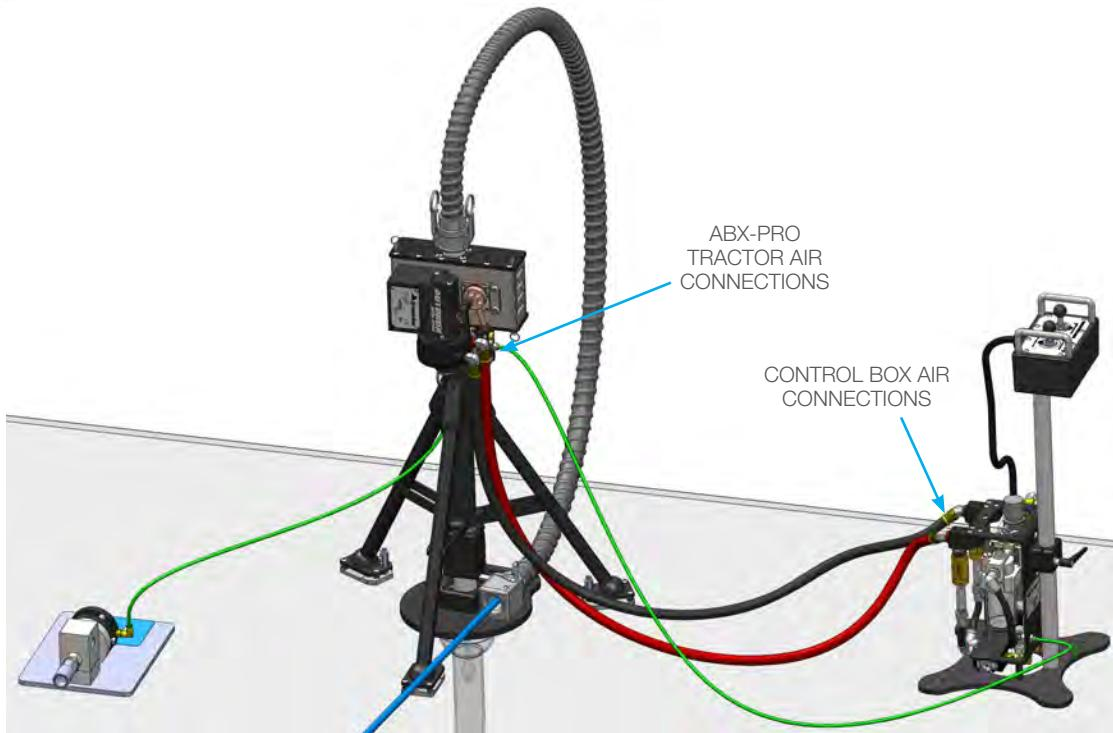

FIGURE 12
14. Connect 1/2" black and red air supply hoses from the fittings on the Control Box to the fittings on the ABX-PRO Tractor. Mate each hose to its respective color bands. (**Figure 12**)